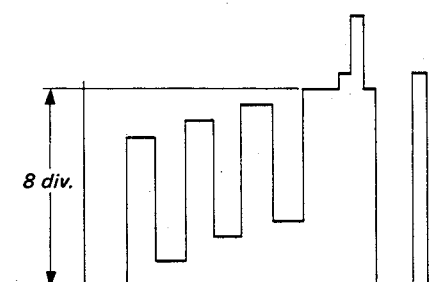

Fig. 21-1
4. Set the VOLT/DIV of the oscilloscope to variable and adjust the waveform to 8 DIV as shown in Fig. 21-1.
6. Adjust RV8 of BB board so that the output waveform is 8 DIV as shown in Fig. 21-1.